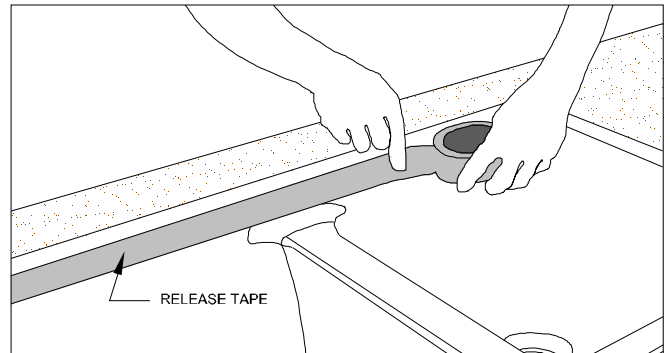

Figure 16A
- Apply a release tape such as masking tape on the side walls around the entire sink. (FIG. 16A)